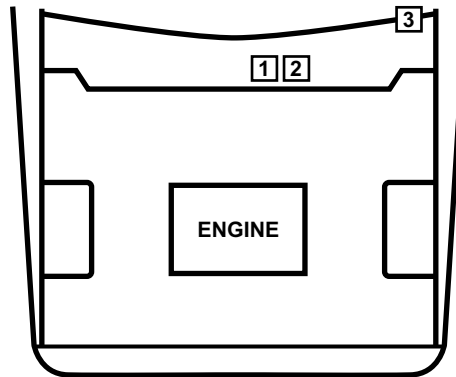

Figure 15-8 1995 Legacy, 1995 Impreza 2.2L and 1996-06 Subaru common connector locations
- “1995 Legacy, 1995 Impreza 2.2L and 1996-06 Subaru common connector locations” on page 148 (Table 15-8, Figure 15-8)